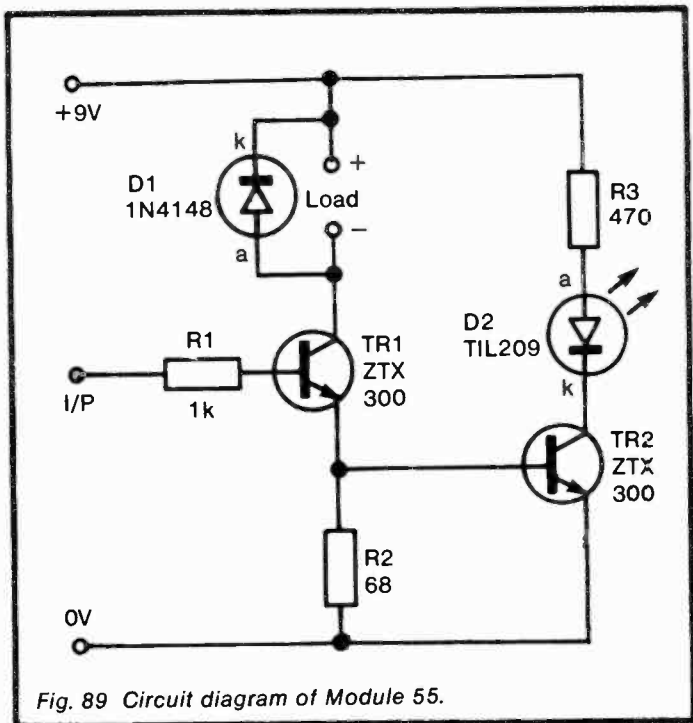

Fig. 89 Circuit diagram of Module 55.
*Circuit diagram:* see Figure 89.